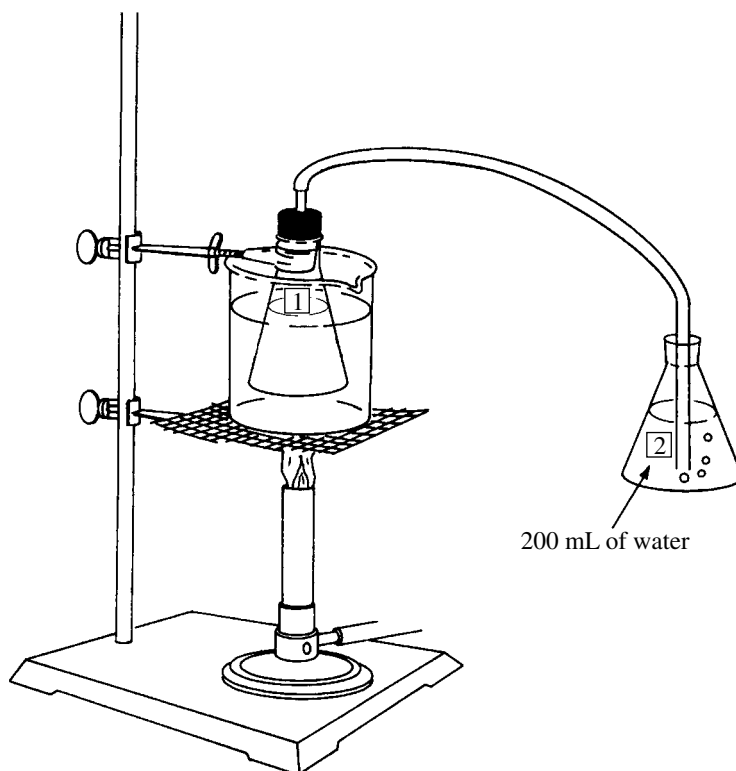

Figure 11.1
3. Place 300 mL of water and three (3) boiling stones in an 800-mL beaker. Support the beaker on a ring stand using a ring support and wire gauze, and heat the water with a Bunsen burner to boiling (Figure 11.1) (or place the beaker on a hot plate and heat to boiling). Keep the water at a gentle boil. Record the temperature of the boiling water on the Report Sheet (1).
4. Prepare an ice-water bath using a second 800-mL beaker half-filled with a mixture of ice and water. Record the temperature of the bath on the Report Sheet (3). Set aside for use in step 8.
stand (Figure 11.1). Adjust the water level in the beaker to cover as much of the Erlenmeyer flask as possible.